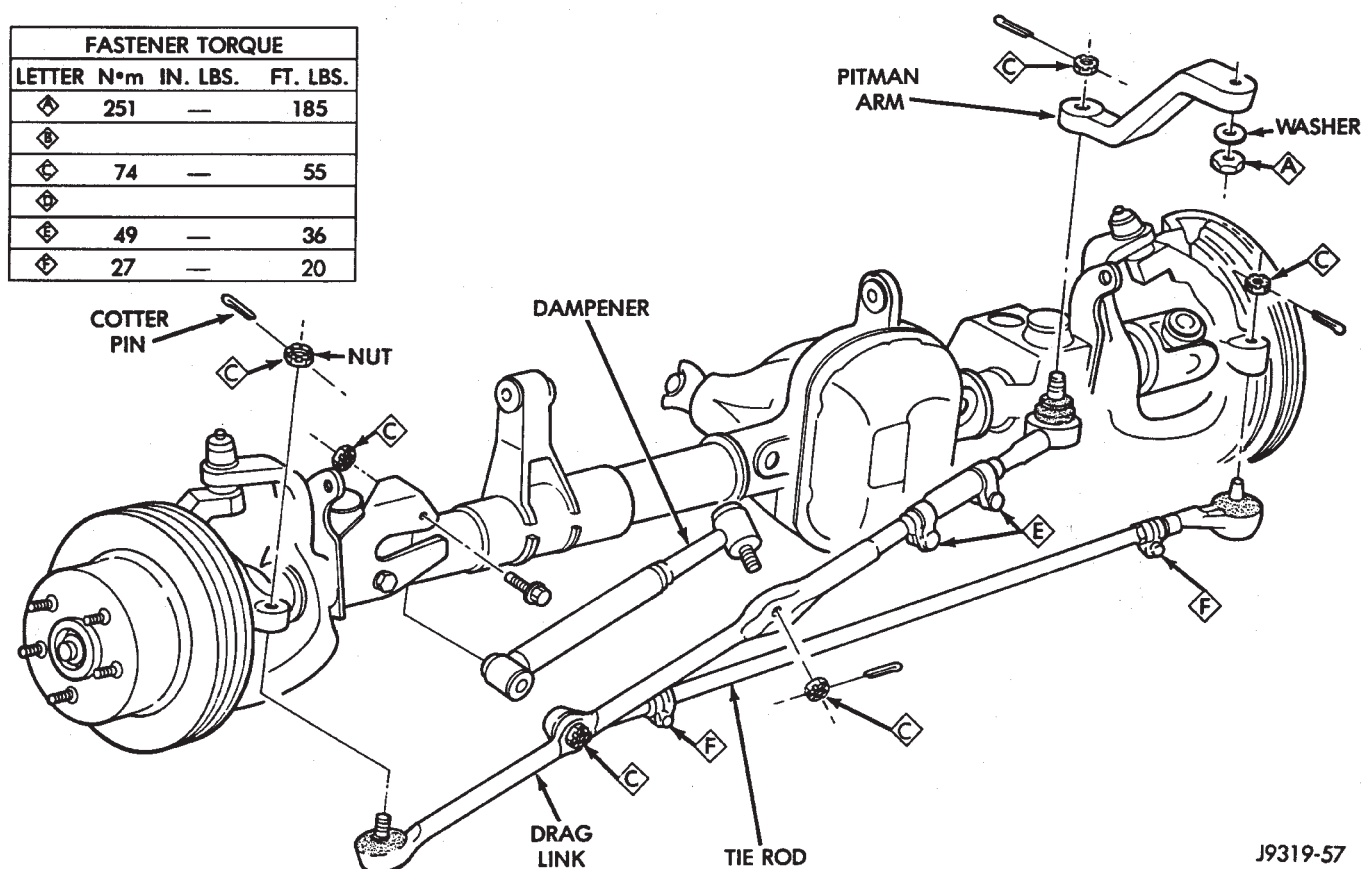
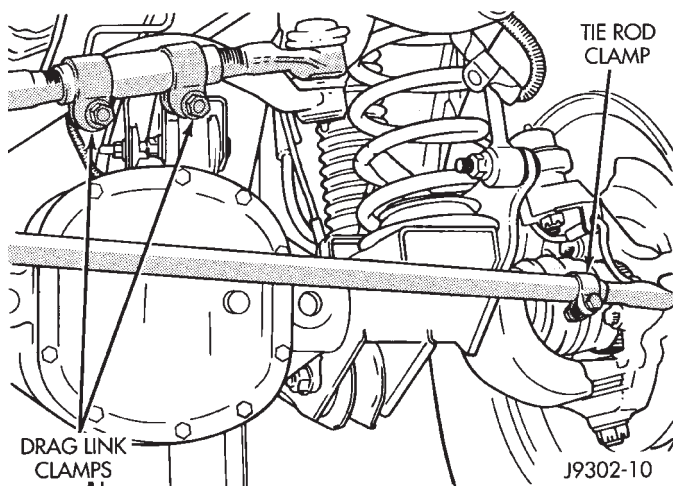

Fig. 2 Steering Linkage
Fig. 3 Tie Rod/Drag Link Clamp Bolt
(1) If necessary, install the tie rod ends in the tube (Fig. 2). Position the tie rod clamp as shown (Fig. 3). Tighten to 27 N•m (20 ft. lbs.) torque.
(2) Install the tie rod on the drag link and steering knuckle. Install the retaining nuts.
(3) Tighten the ball stud nut on the steering knuckle to 74 N•m (55 ft. lbs.) torque. Tighten the ball stud nut to drag link to 75 N•m (55 ft. lbs.) torque. Install new cotter pins.
(1) Remove the cotter pins and nuts at the steering knuckle and drag link (Fig. 2).
(2) Remove the steering dampener ball stud from the drag link with a puller tool.
(3) Remove the drag link from the steering knuckle with a puller tool. Remove the same for tie rod and pitman arm.
(4) If necessary, loosen the end clamp bolts and remove the tie rod end from the link.
(1) Install the drag link adjustment sleeve and tie rod end. Position clamp bolts as shown (Fig. 3).
(2) Position the drag link at the steering linkage (Fig. 2).
- (1) Place the front wheels in a straight ahead position.
- (2) Remove the steering dampener retaining nut and bolt from the axle bracket (Fig. 2).
- (3) Remove the cotter pin and nut from the ball stud at the drag link (Fig. 2).
- (4) Remove the steering dampener ball stud from the drag link with a puller tool.